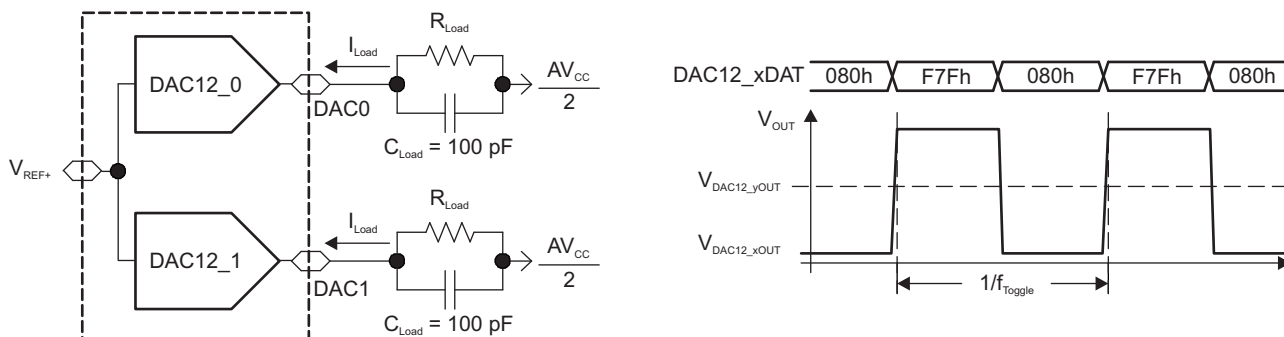

**Figure 5-22. Crosstalk Test Conditions**
| Channel-to-channelcrosstalk (1) (see Figure 5-22)                                                                | DAC12_0DAT = 800h, No load,DAC12_1DAT = 80h ↔ F7Fh, R Load = 3 kΩ,f DAC12_1OUT = 10 kHz at 50/50 duty cycle,T A = 25°C | 2.2 V, 3 V      |     | -80 |     | dB   |